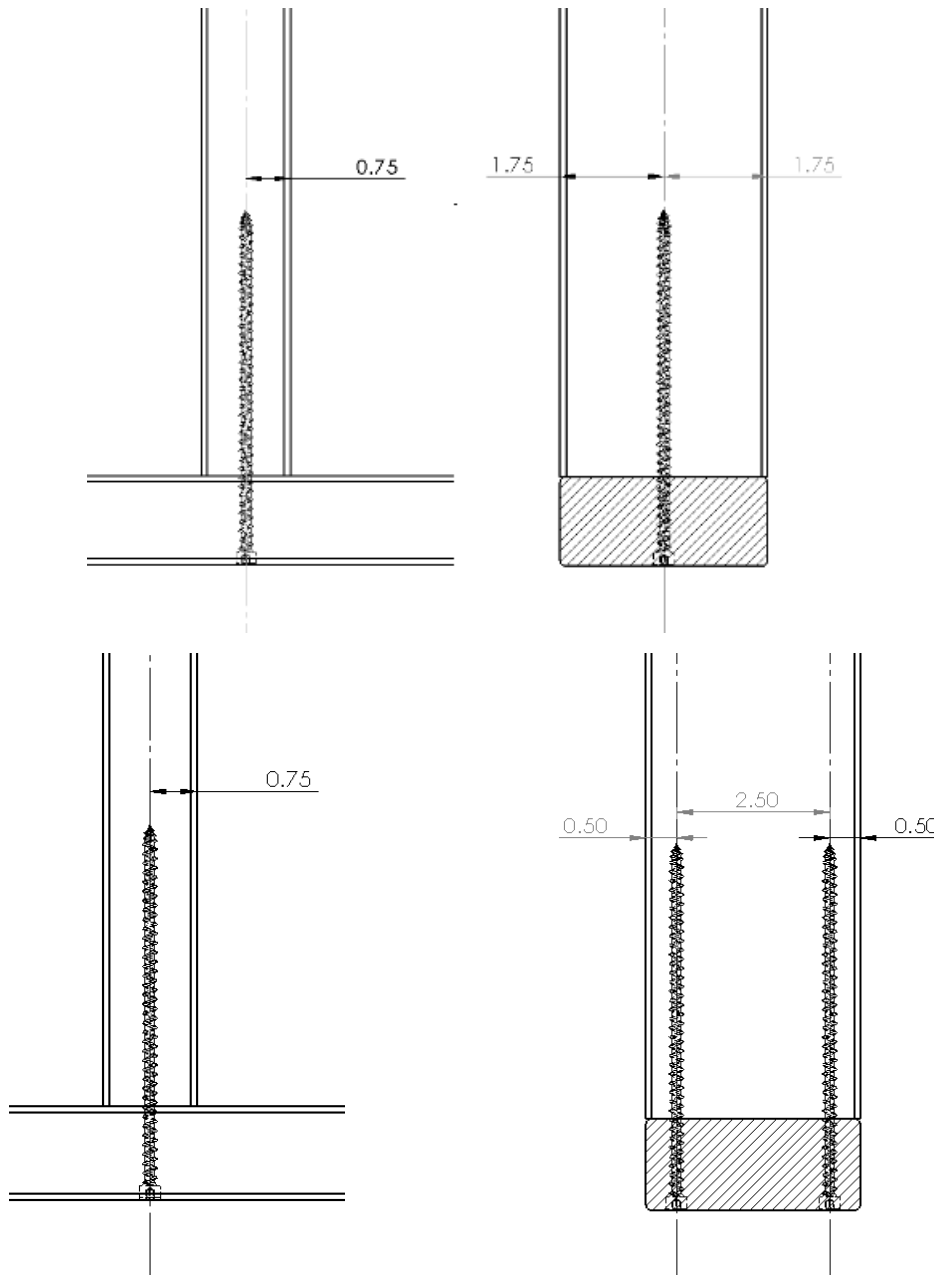

Figure 11. Stud to Bottom Plate – 0° (Perpendicular) Install Options
2.7.2.1 Install CAMO Series #14 x 6" Truss Screws or CAMO Series #14 x 4½" Truss Screws upward through the bottom plates and into the wall studs (see Figure 11).